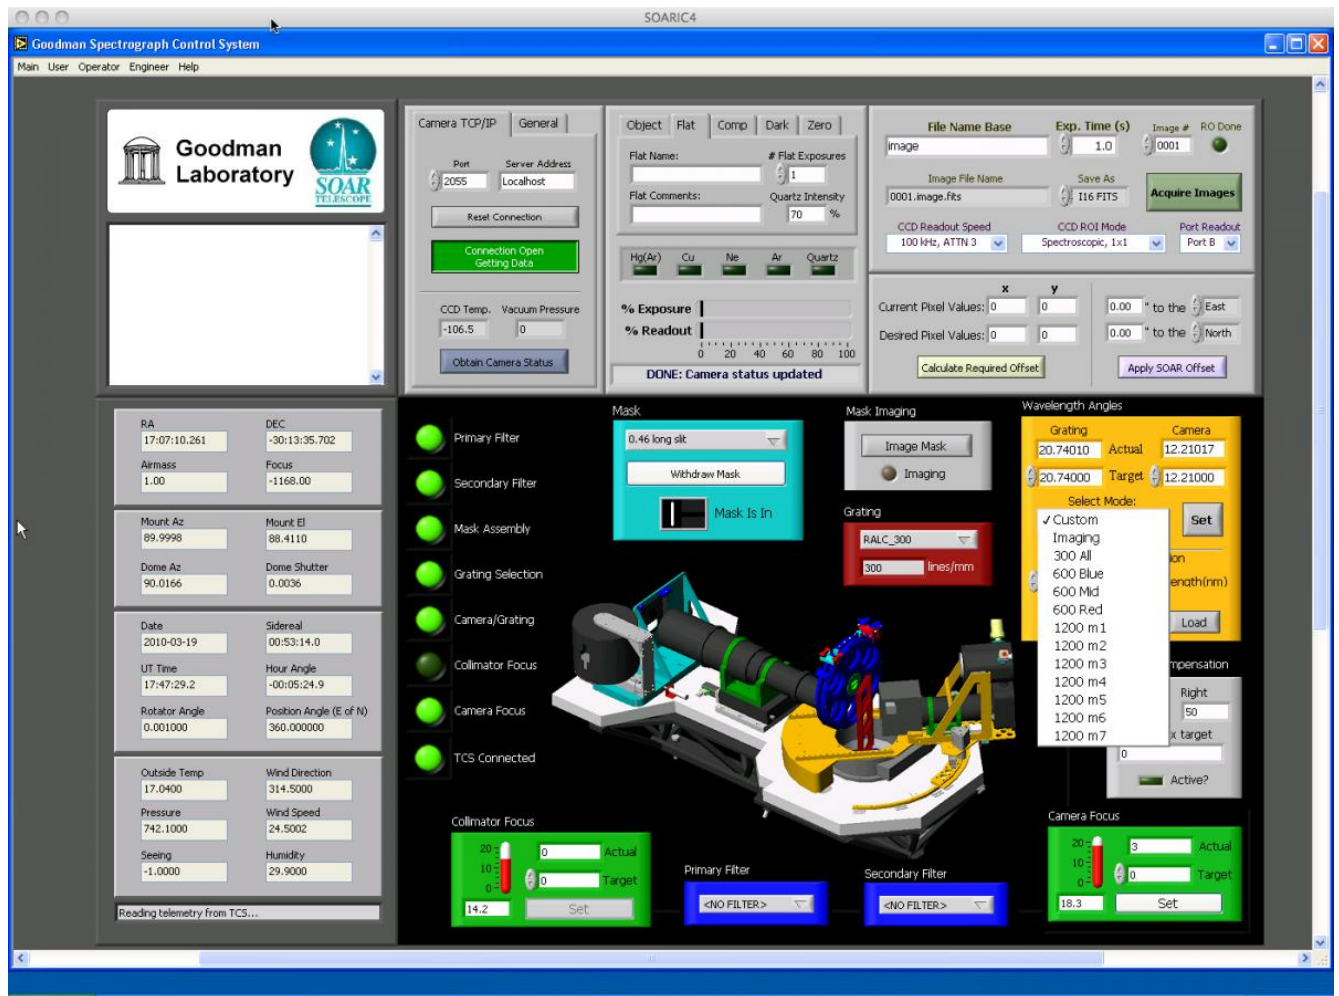

Figure 15: Selecting the camera and grating angles (Wavelength Assembly).
- Select the "Camera and Grating" angles for the observations. This feature allows the observer to select among the various predetermined spectroscopic modes of the instrument (see Figure 15). These modes are listed in the Goodman Overview [2] section of this manual. We provide examples of HgAr and CuHeAr spectra in the Comparison Lamp [46] section of the Goodman documentation.